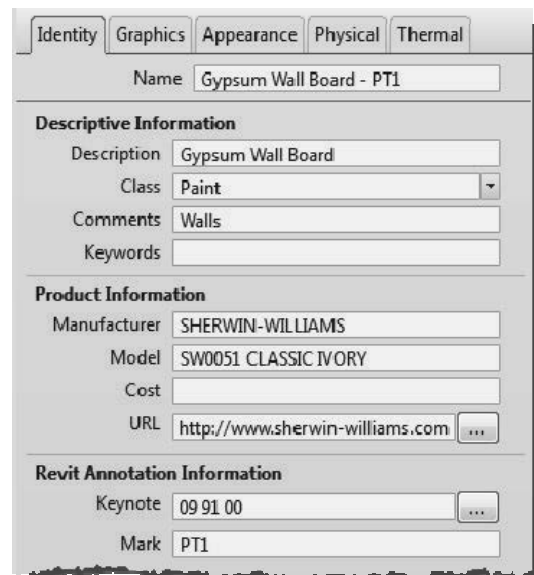

FIGURE 4-3.13 Identity info for PT1
40. Fill out the **Identity** tab using the information from the website as shown in Figure 4-3.13.